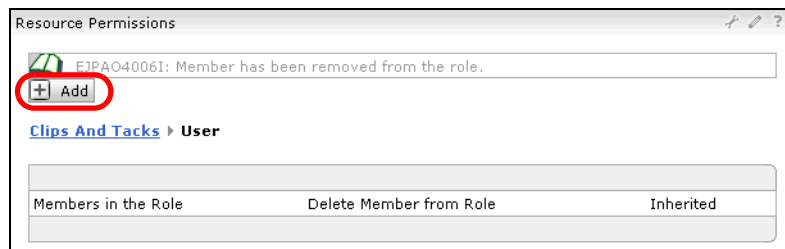

Figure 14-88 Adding groups and users to a portal page
- Click *Add* to add groups or users to the role members (Figure 14-88).